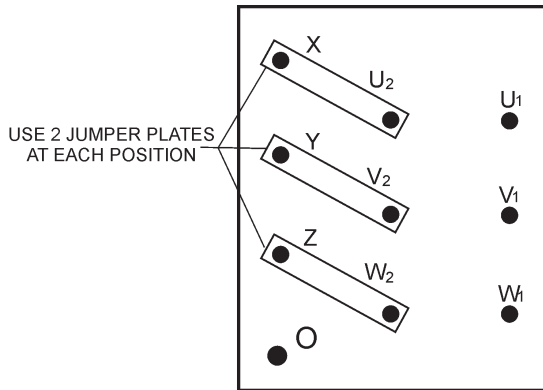

**Figure 21. UVWO Terminal Lugs 1Ø139V Connections**
3. Connect the load wires to the UVWO terminals as shown in Figure 21.